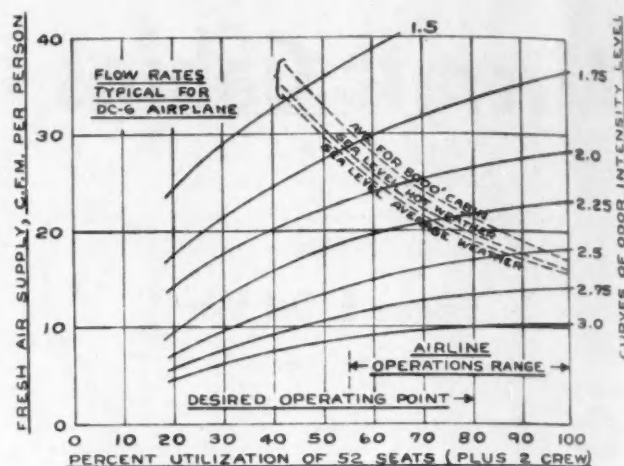

Fig. 1—Variation of fresh air rate and air freshness index as function of DC-6 passenger loading
**Ventilation with 100% Fresh Air**—Plotted as dashed lines in Fig. 1 are typical cfm values of fresh air per person for various percentages of